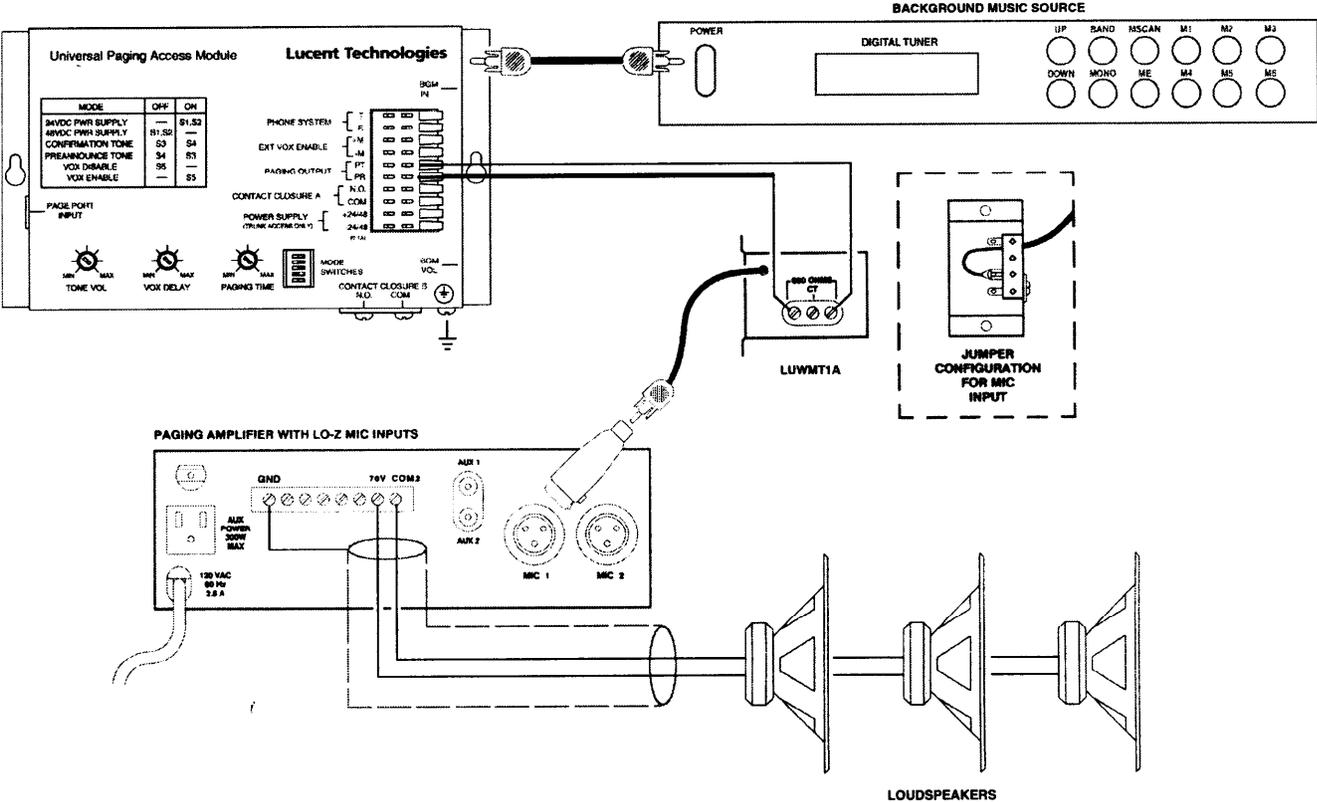

Figure 9. Typical Connection to a MIC Input
1. Make sure the amplifier is turned off or unplugged. Modify the LUWMT1A transformer by moving the push-on lug to the center terminal on the terminal strip (see inset diagram in Figure 9 for proper jumper placement).